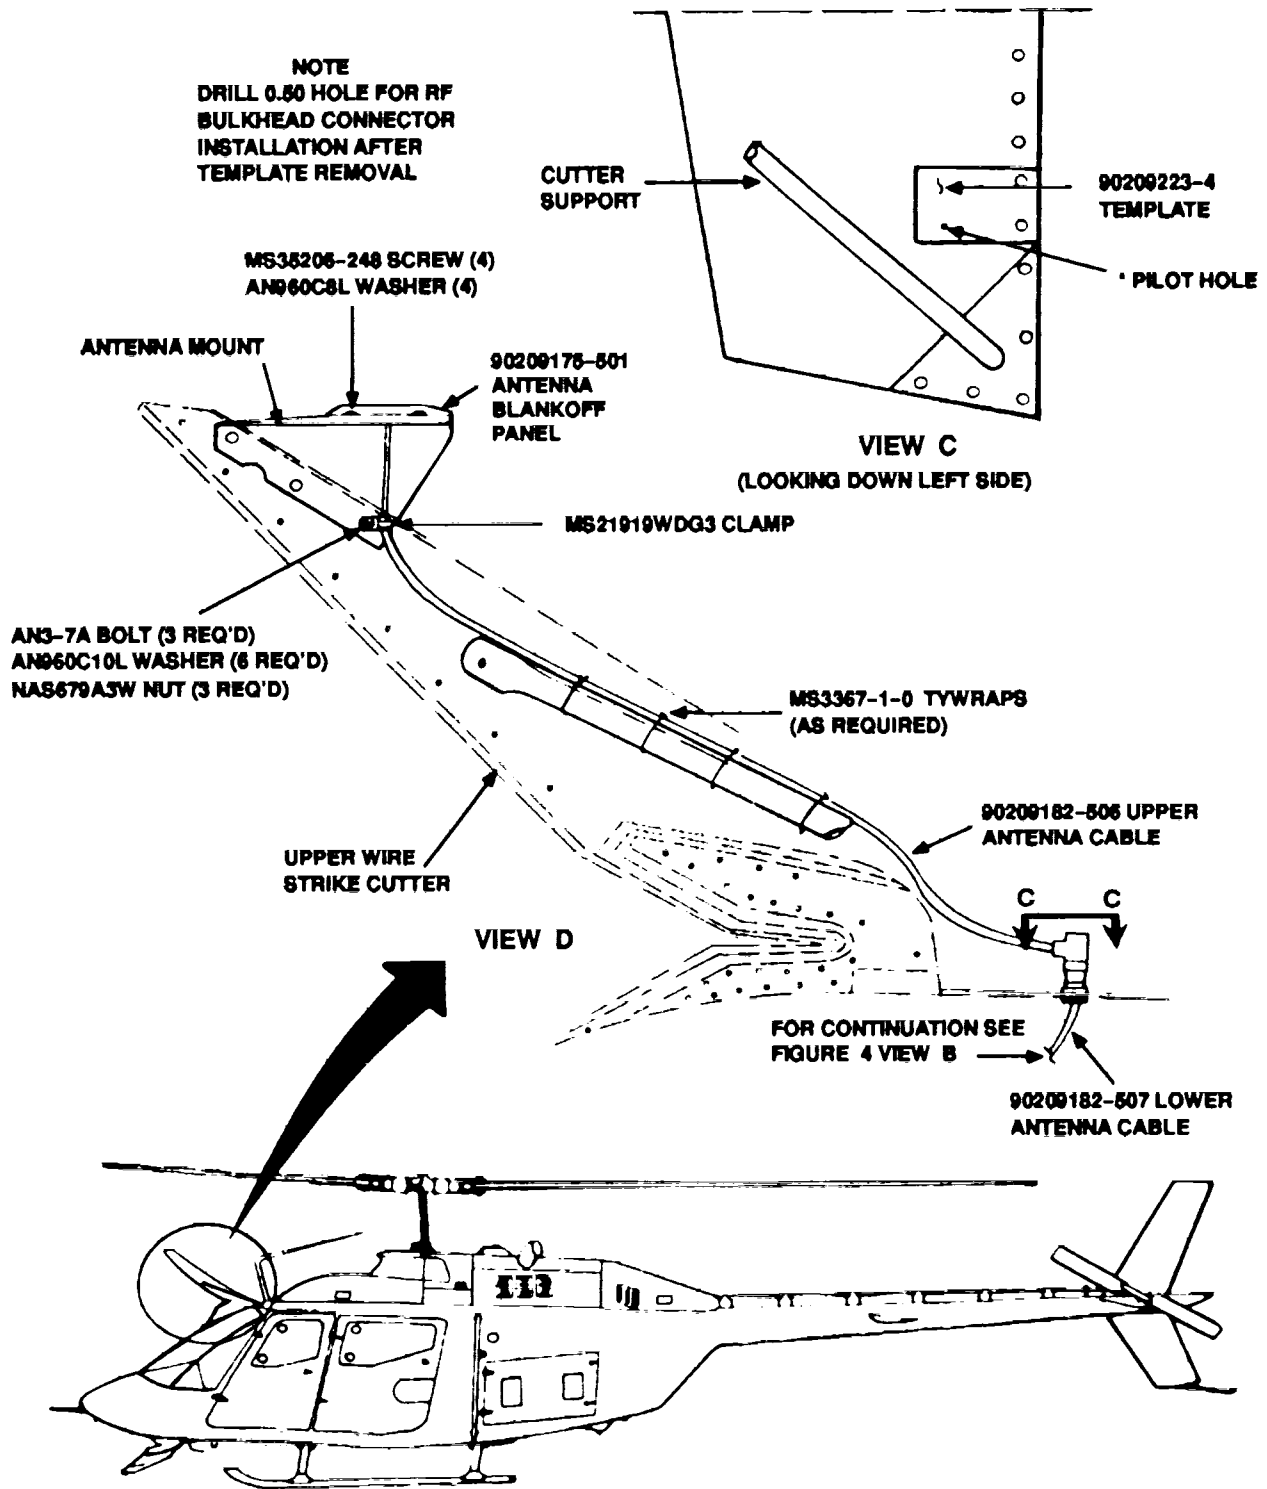

Figure 5. GPS Antenna Cable Installation.
- (29) Install clamp (P/N MS21919WDG3) to lower mounting bolt on antenna mount (Figure 5, View D).
- (30) Secure antenna cable to antenna mount with clamp (P/N MS21919WDG3) (Figure 5, View D).
- a. Remove GPS antenna Blank off panel (if installed) from GPS antenna mount (Figure 5, view D).
- (1) Check antenna cable connection to Trimpack receiver.
- (2) Check antenna cable connection to bulkhead connector.
- (3) Check antenna cable connection to GPS antenna.
- (4) Recheck antenna installation.
- d. Install antenna Blank off panel (P/N 90209175-501) on GPS antenna mount with four screws (P/N MS35206-247) and washers (P/N AN960C8L) (Figure 5).